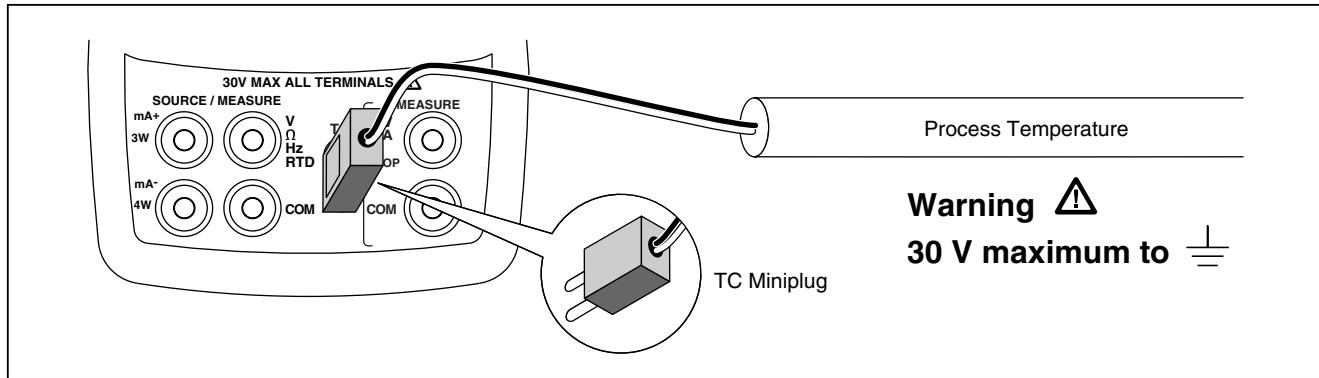

Figure 10. Measuring Temperature with a Thermocouple
1. Attach the thermocouple leads to the appropriate TC miniplugin, then to the TC input/output as shown in Figure 10. *One pin is wider than the other. Do not try to force a miniplugin in the wrong polarization.*